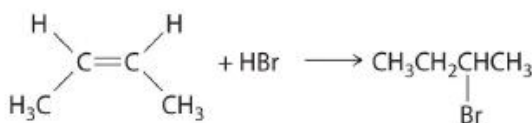

Figure 19.6j. The electrophilic addition of a HBr to 2-butene. (credit: *General Chem: Principles, Patterns, and Applications (Averill)*, CC BY-NC-SA 3.0).
- In the addition of a hydrogen halide to an alkene, the reaction is shown in Figure 19.6j.